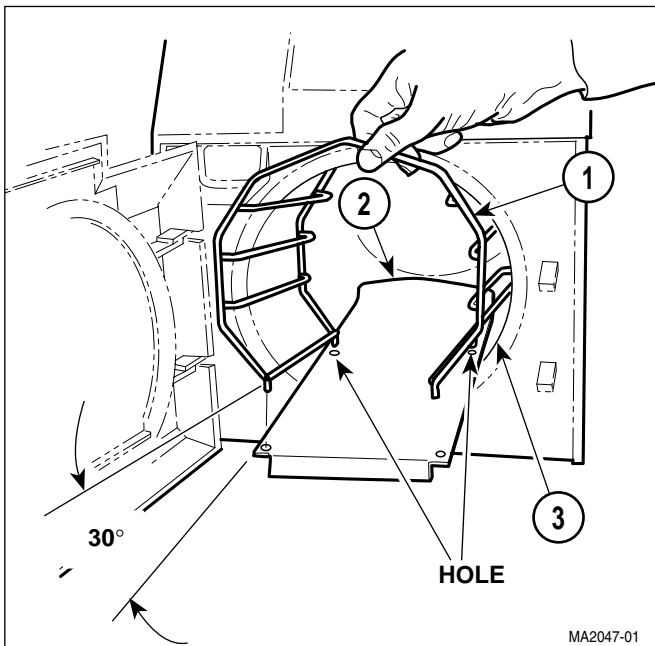

Figure 4-19. Wire Tray Rack and Tray Plate Removal/Installation
- (1) Open sterilizer door.
- (2) Remove trays.
- (3) Pull wire tray rack (1, Figure 4-19) and tray plate (2) from pressure vessel (3).